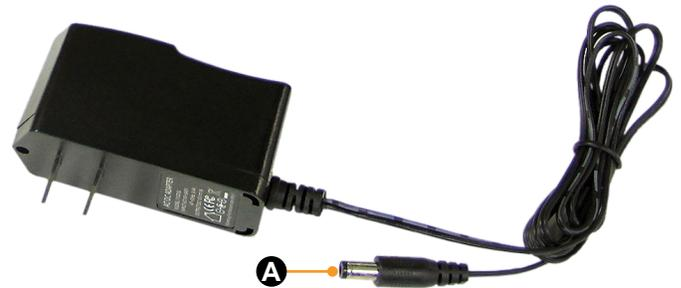
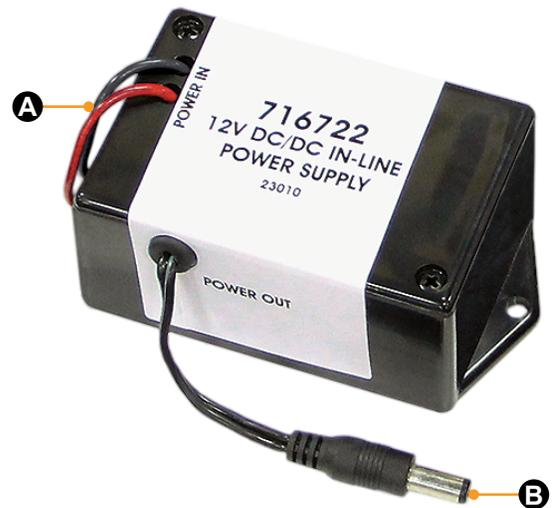

Fig.28
Fig.29
4. Use the 120V AC/DC adapter (Fig.28) for a power source by inserting the power supply's barrel connector (Fig.28A) into the back of the cellular gateway (Fig.27C), or plug the 12V DC/DC barrel connector (Fig.29B) into the back of the cellular gateway (Fig.27C).
5. Plug the 120V AC/DC adapter (Fig.28) into a wall outlet or utilize the 12V DC/DC adapter (Fig.29) by connecting the red and black wires (Fig.29A) to a 12V power source.